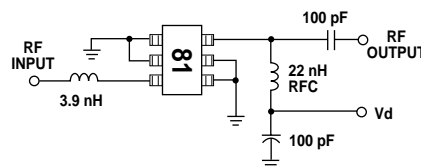
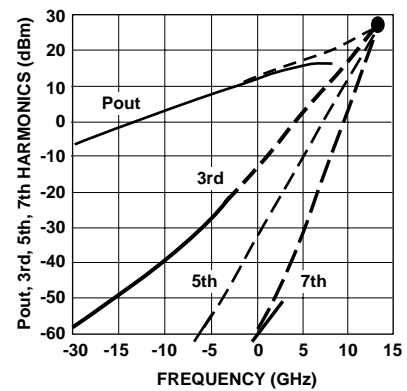

Figure 10. Test Circuit.
Figure 19. Intermodulation Products vs. Input Power. ($V_d = 3.0V$)
1. Guaranteed specifications are 100% tested in the circuit in Figure 10 in the Applications Information section.
The circuit shown in Figure 10 is used for 100% RF testing of Noise Figure and Gain. The 3.9 nH inductor at the input fix-tunes the circuit to 2 GHz. The only purpose of the RFC at the output is to apply DC bias to the device under test. Tests in this circuit are used to guarantee the NF_{test} and G_{test} parameters shown in the table of Electrical Specifications.
Like other active devices, the intermodulation products of the MGA-81563 increase as the device is driven further into nonlinear operation. The 3rd, 5th, and 7th order intermodulation products of the MGA-81563 are shown in Figure 19 along with the fundamental response. This data was measured in the test circuit in Figure 10.